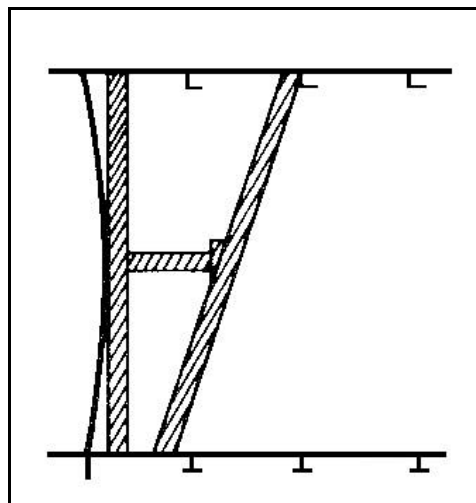

Figure 22-4. Shoring for Bulging Plate
- Plan shoring to hold the bulkhead as it is (see Figure 22-4). Do not attempt to force a warped, sprung, or bulged bulkhead back into place.